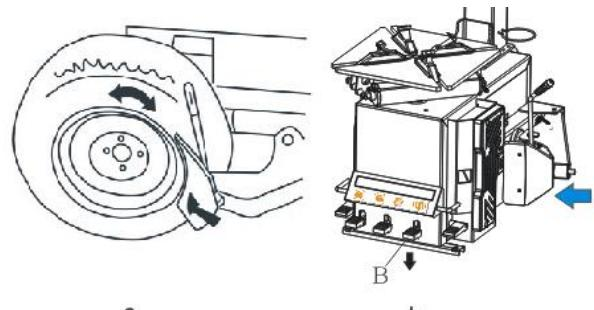

Fig.13
- Press down the pedal B (fig. 13) to activate the bead breaker and release it when the blade has reached the end of its travel or in any case when the bead is broken.